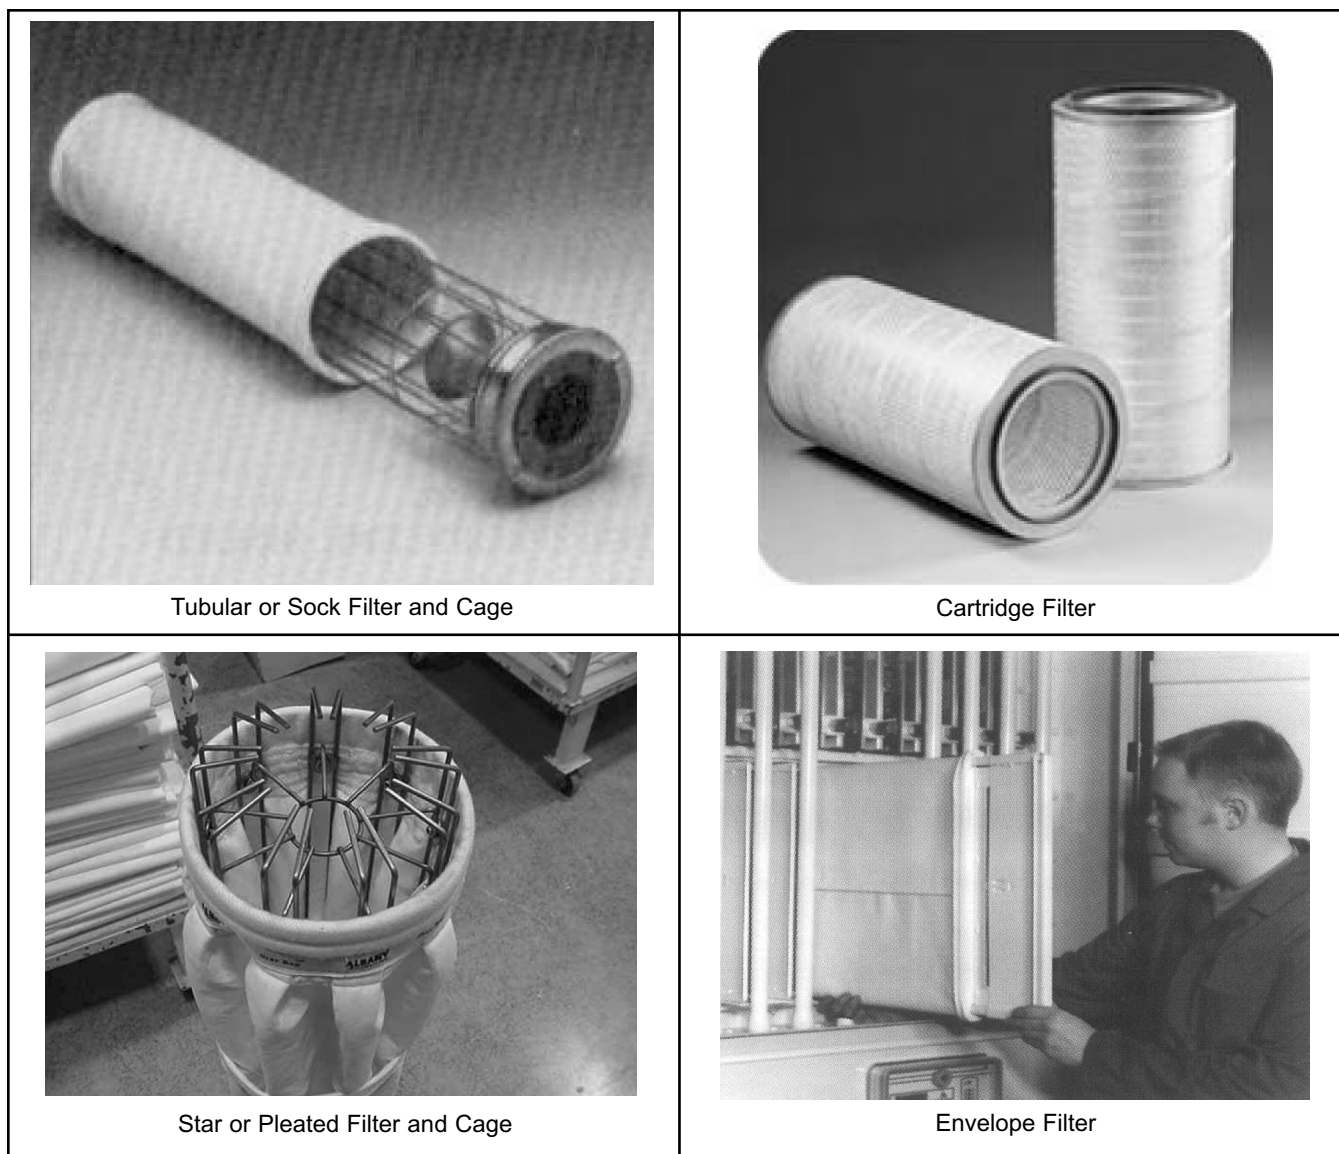

FIGURE 6-9. Examples of types of filter media
**6.3.7 Filter Media Types.** Filter bags are available in a variety of shapes: tube, PFE, pleated, envelope/pillowcase, and cartridges (see Figure 6-9). Some of the bag shapes require rigid wire cages to support the bag and prevent its collapse from the differential pressure between the clean and dirty sides of the baghouse. Cartridges and some pleated filter bags do not require cages. The physical characteristics of the dust and process conditions are used to decide which shape to use.